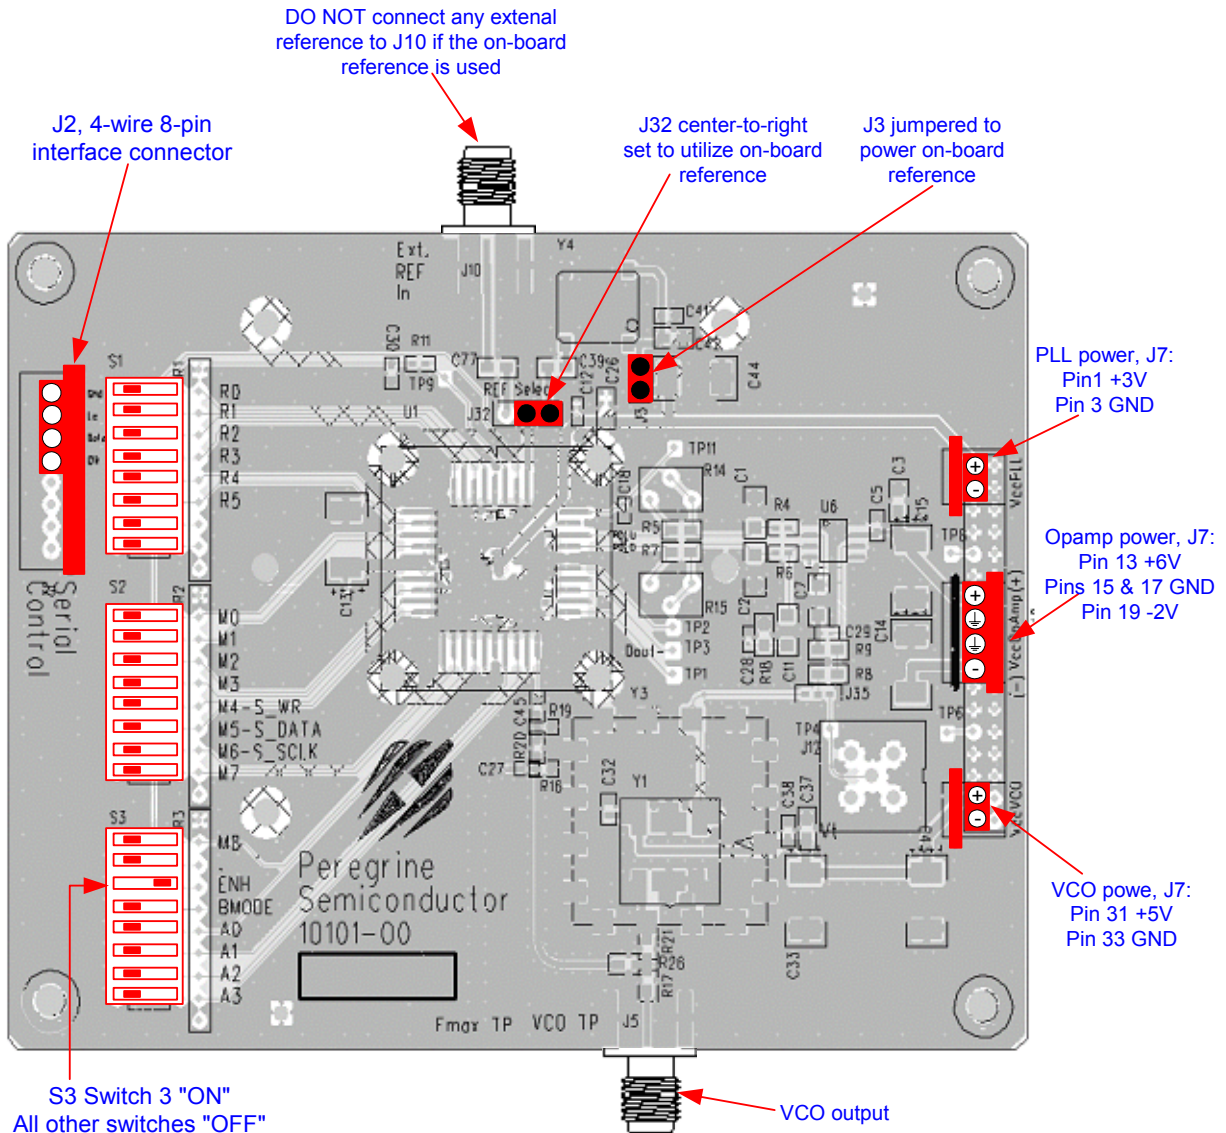
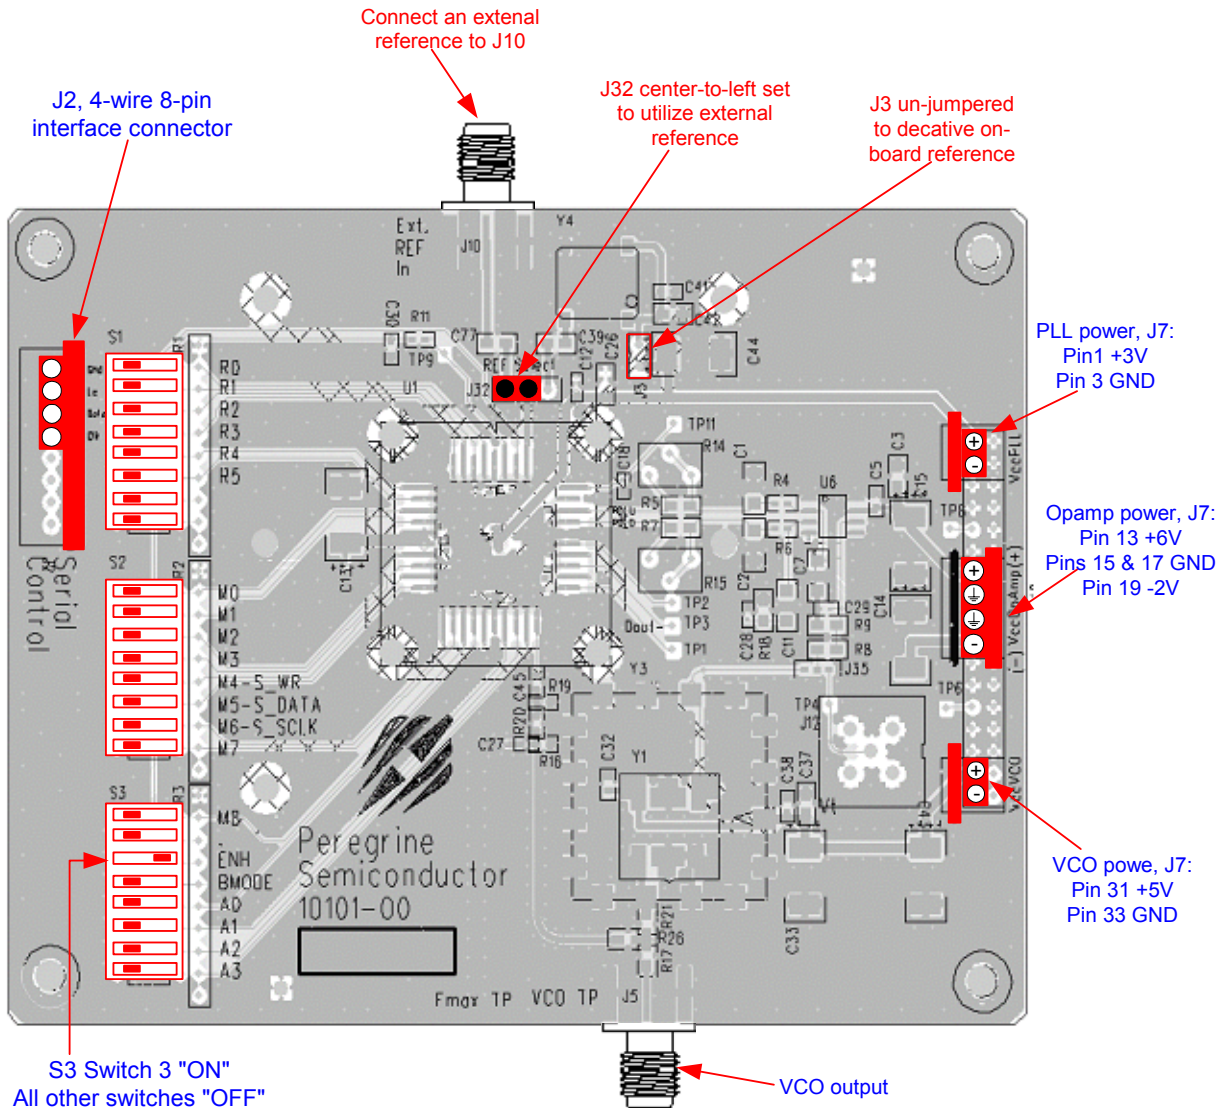

Figure 1. Evaluation Kit Default Jumper & Switch Settings Using On-board Reference.
Figure 2. Jumper Setting to Use an External Reference. The red texts show the necessary modification from Fig. 1.
The PE9704 Evaluation Board is configured with an on-board VCO, TCXO reference and a second order active loop filter. The loop filter is followed by an optional low pass filter after the Op Amp. The VCO tuning range is 3000 MHz to 3500 MHz and the reference oscillator runs at 20 MHz. The active loop filter is designed for a 1 MHz comparison frequency and a 3000 MHz output frequency with unity gain crossover at 66 kHz, phase margin of 73 degrees and 1.2 dB of peaking. The data provided was measured in this configuration with the default jumper settings shown in Figure 1.
Two jumper shunts (J3 & J32) configure the Evaluation Board to operate with either the on-board reference oscillator (TCXO) or an external reference applied to J10. Figure 1 shows the proper configuration for utilizing the on-board TCXO reference. J32 in the middle-to-right connection as shown connects the output of the TCXO to the PLL f_r input, while J3 installed provides power to the TCXO. Do not connect any external reference to J10 if the on-board reference is selected. To use an external reference, place J32 in the middle-to-left connection which connects the PLL f_r input to the J10 SMA connector and remove the jumper on J3 to power-down the TCXO. Figure 2 shows the configuration of using an external reference. The red texts show the necessary modification from Fig. 1.
The default jumper and switch settings are shown in Figure 1, which will place the part into serial programming mode utilizing the on-board reference. Peregrine Semiconductor recommends that the default settings be used initially to bring up the evaluation board and duplicate the enclosed measured data.
1. Verify a jumper is placed on the connector J3 and REF Selector (J32) is positioned in the middle-to-right connection to select the on-board reference as shown in Figure 1.
3. Connect power supply cable to the Evaluation Kit board as shown in Figure 1. Note that the red connector of the power cable is always the positive and the black connector is ground in a 2-wire cable or the negative in a 4-wire cable.
5. Using the application software provided and described in detail in the next section, serial programming can be evaluated. To enable software control of the evaluation board, ensure all DIP switches are turned OFF except for ENH (Switch 3 of S3) as shown in Figure 1. The 4-wire interface cable (3-wire serial interface and GND) should be connected from your computer's printer port to J2 on the evaluation board to enable software control.